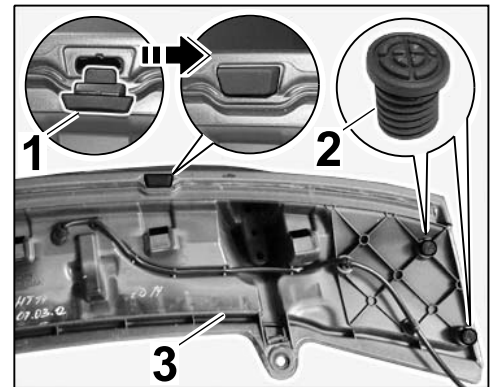

Figure 14
3.4.5 Fit two rubber mountings (19 x 5 x 2 for Carrera 2 or 19 x 2 x 2 for Carrera 4); (right: ⇒ *Figure 14*).
3.4.6 Screw buffer (6 x 14.5 x 20; 2 x left / 2 x right: ⇒ *Figure 14*) as far as it will go into the rear spoiler. Then unscrew each buffer by one turn.